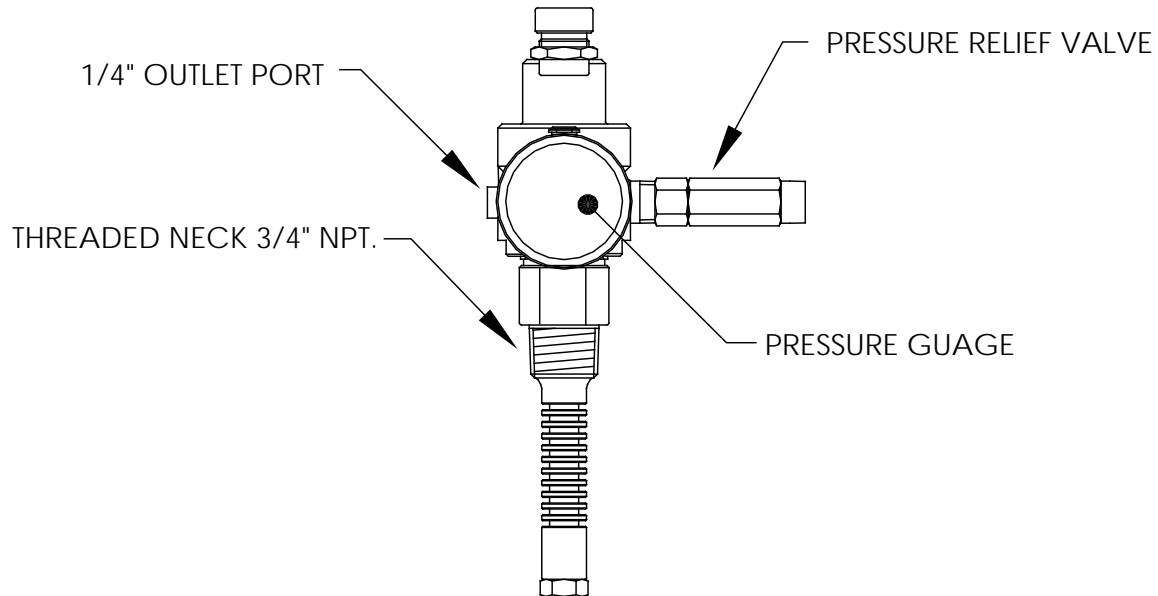

Figure 3-3 Sample Probe
- 5) Using Teflon® tape or pipe dope, wrap or cover NPT threads of sample probe (see Figure 3-3).